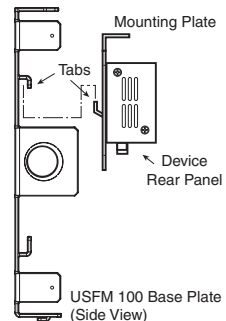

Figure 4. Hook the Plate under the Tabs
4. Hook the tabs on the mounting plate (with the accessory device attached) under the tabs on the USFM 100 base plate (see figure 4).